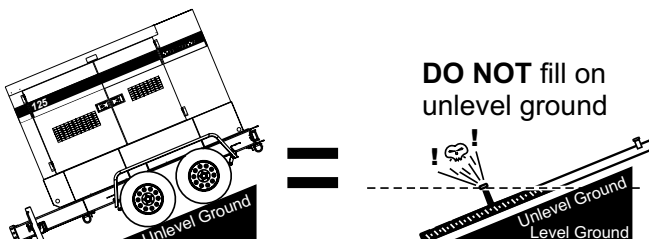

Figure 29. Only Fill on Level Ground
4. **Level Tanks** — Make sure fuel cells are level with the ground. Failure to do so will cause fuel to spill from the tank before reaching full capacity (Figure 29).